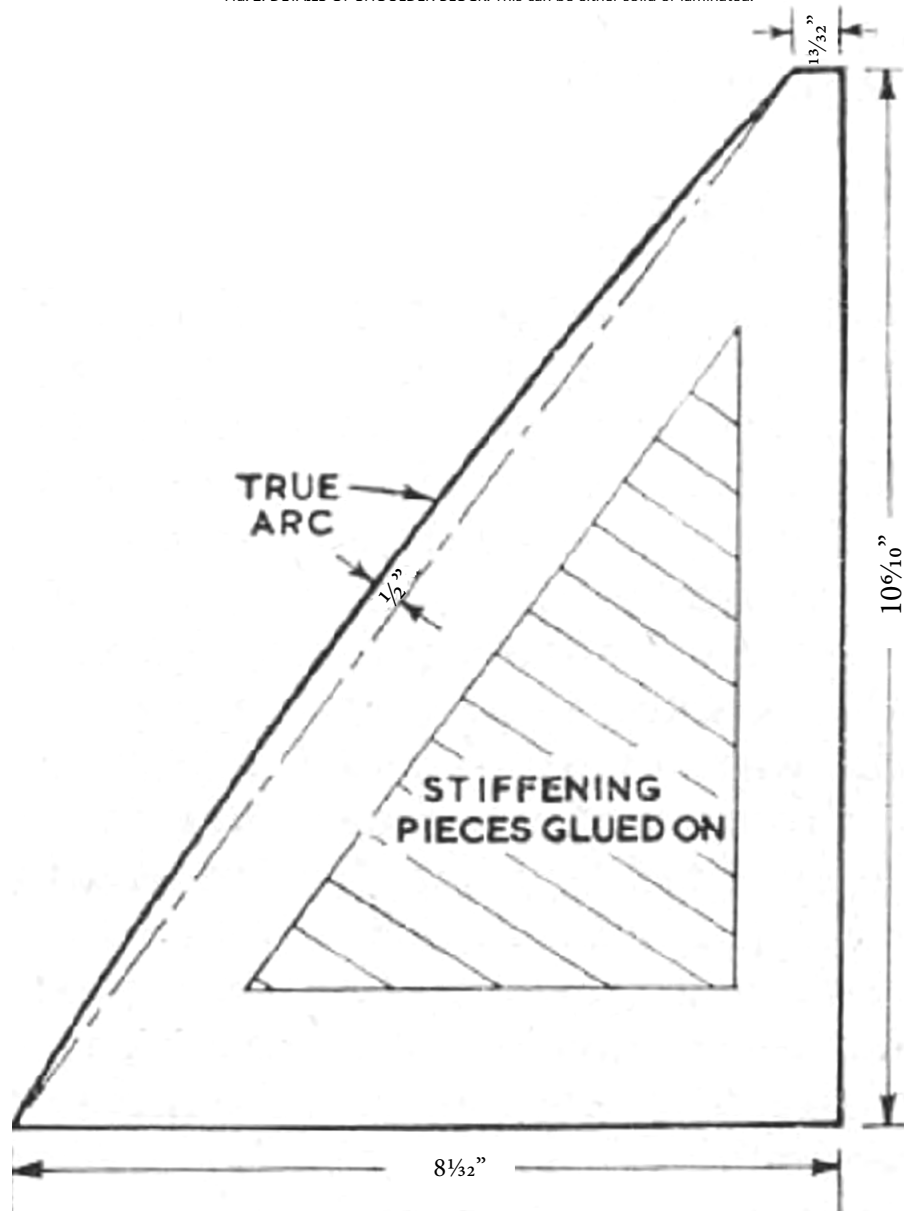

FIG. 3. SHOWING HALF-PLAN OF DUMMY SOUNDBOARD. The curve is a true arc, there being a curve outwards of 4 inch at the central point.
**The Sound Chamber** — Instead of using an elaborate mould such as is employed by the violin or guitar maker, I build the balalaika body on a “dummy” soundboard cut out of  $\frac{3}{16}$  in. plywood. The baseboard, side linings and shoulder block are all attached to this by screws from the outside (see Fig. 4) so that the dummy may be discarded when the body shell has been made. Cut the plywood to the dimensions shown in Fig. 3 and glue a couple of stiffening pieces about  $\frac{1}{4}$  in. thick on the side which will be inside the sound chamber. The baseboard shown in Fig. 1 is cut from a piece of straight-grained pine or spruce similar to that selected for the belly, but not necessarily quarter-sawn. It should be fully marked out and cut with a certain amount of waste as shown by the shaded areas in the illustration.
The back ribs. Your next task is to prepare the three pairs of back ribs (R1, R2, and R3) as in Fig. 3— note that a pair is one right- and one left-hand piece. Prepare the ribs as suggested in Part 2, bearing in mind that much of the art of the luthier lies in the ability to know the qualities of wood and to “feel” the ideal thickness as he contrasts the hardwood parts against the belly material. In the hardest of material the ribs should not be less than 2 mm. thick.
When cutting out the ribs, allow about  $\frac{3}{4}$  in. to spare at each end and sufficient waste on the outsers to trim level with the side linings after assembly. After studying Figs. 1 and 2, cut out some rib shapes in cardboard and bend them into their respective places, in conjunction with Fig 3. You will find this a help in shaping the side linings and baseboard edges to take the ribs. First, shape the shoulder block where the outer rib (R1) will be fitted, and lay the cardboard shape in place from time to time as you cut away the surplus wood gradually to make a good fit. Then cut the angles on the baseboard ends and shape the rib linings.
The two outer ribs are fitted first and they should be placed in water for at least 10 minutes before bending. The iron should be hot enough to cause “spitting” when in contact with drops of water. The curves shown in Fig. 3 will give you a nice shape and body depth but some makers fashion the ribs somewhat straighter. With all other things perfect, the deeper body will give the instrument much more volume.